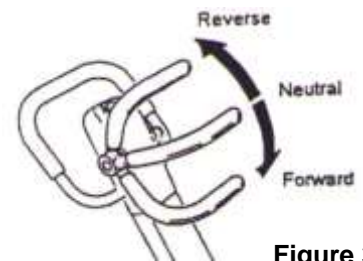

Figure 3
2. Operate travel lever to have compactor travel forward or reverse. Push the lever forward for forward travel, pull it back for reverse and place it in neutral for vibration in place. (Fig.3)